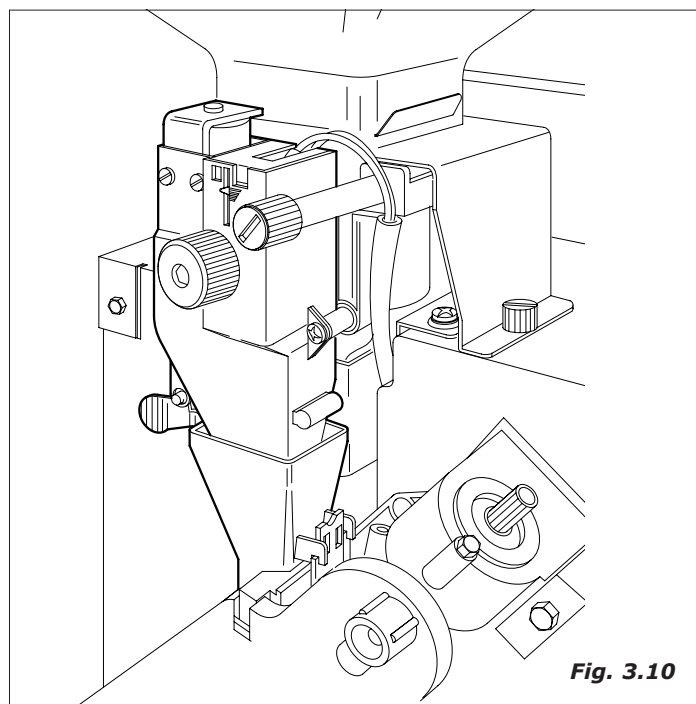

Fig. 3.10
- the grinder is activated until it reaches the dose of ground coffee set by the doser (Fig.3.10)